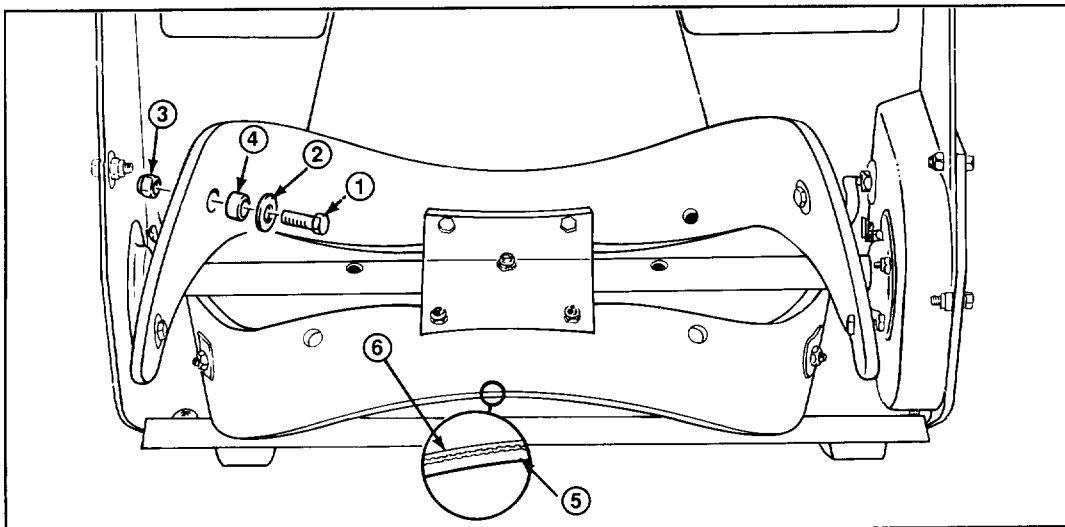

Figure 19
**1. REMOVING BLADE (Fig. 19)**—Remove (6) 7/16" bolts, (4) washers, and (6) locknuts securing blade to rotor shaft assembly.
**2.** Slide the blade out from between the steel plates and push the (6) bushings out of the blade holes (Fig. 19).
**3. INSTALLING NEW BLADE**—The rotor blades are made of laminated rubber. Examine the edge of a blade to see the difference in layer thicknesses (Fig. 19).